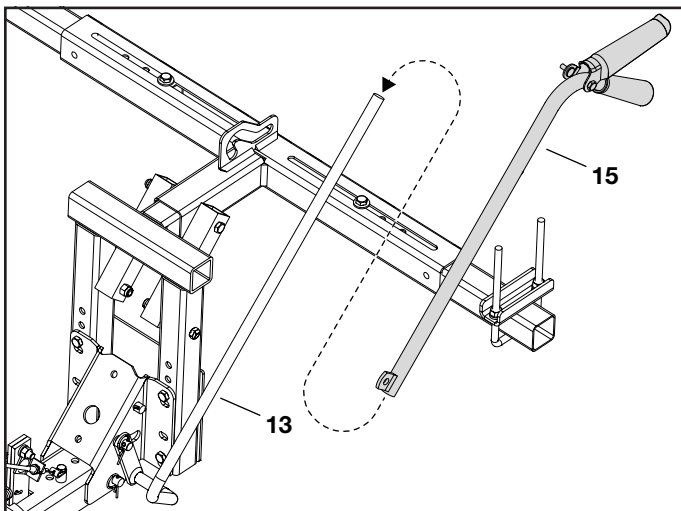

FIGURE 11
STEP 11: (SEE FIGURE 11)
- Slide the lift handle tube assembly (15) over the shaft of the lift handle assembly (13)